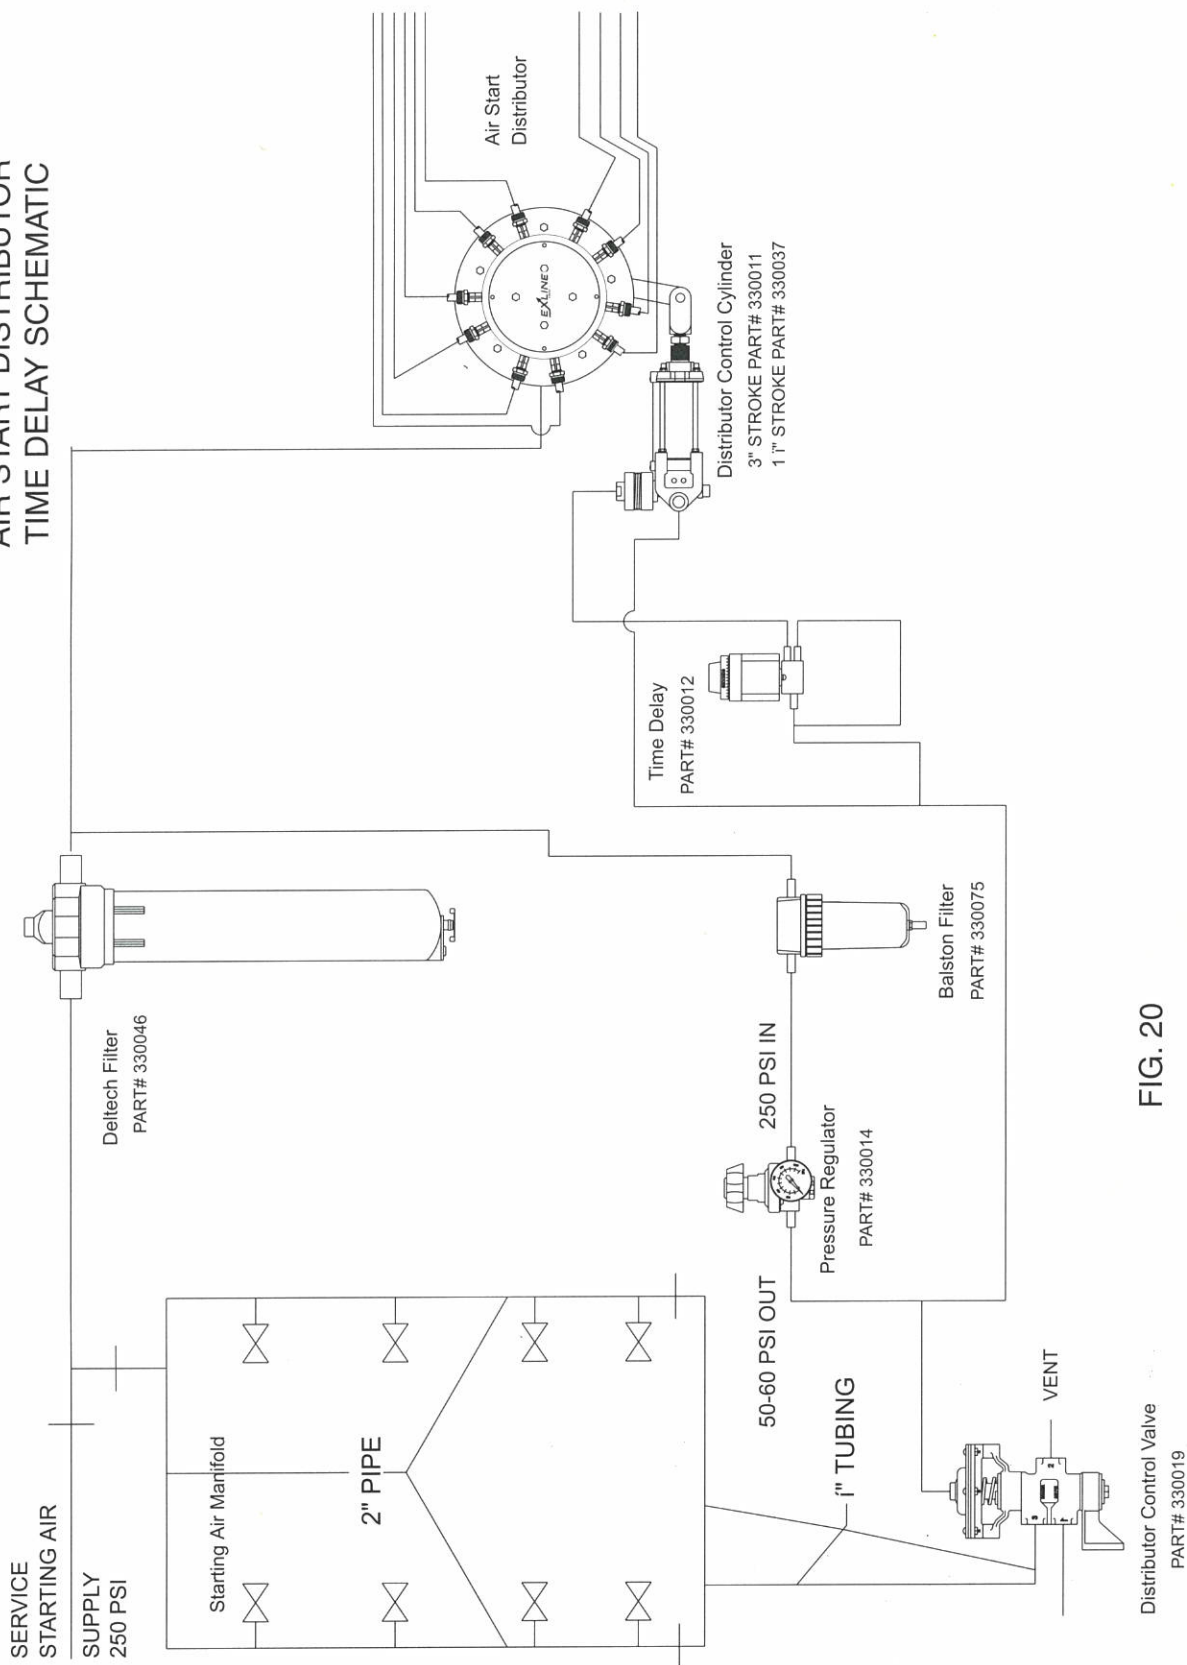
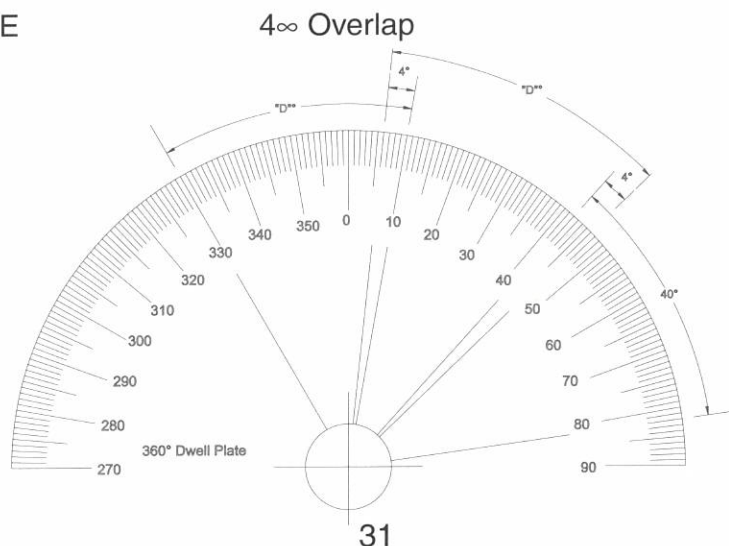

FIG. 20
FIG. 22
Refer to the time delay schematic, Fig. 20. The sequence of events begins when starting air pressure is admitted into the distributor through the control valve and filter. The distributor is set in a retarded position. All air start distributor pilot valves are closed except the one held open by the distributor's camshaft. The valve held open by the distributor camshaft sends a signal to a starting air check valve on the cylinder, and the crankshaft begins its "breakaway" roll.
When signal air is not available, use the schematics in Fig. 20 or Fig. 22 and the instructions given below.
2. Connect the supply airline* to the starting airline downstream from the starting air valve. Connect as shown in Fig. 22.
3. At locations where air leaks are a problem, connect the distributor control cylinder according to the schematic in Fig. 20.